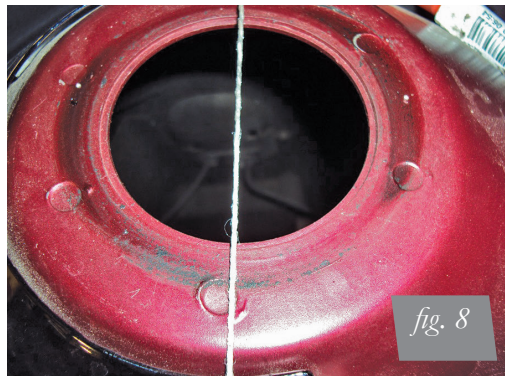
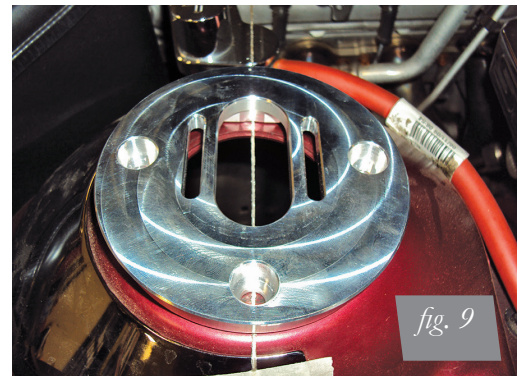

fig. 8
fig. 9
2. Place and center the camber plate on top of the strut tower with the slots directed perpendicular to centerline of vehicle, toward the engine compartment and one hole on the outboard side. It may be useful to place a string from strut tower to strut tower through the centers and tape in place to help reference the center of the tower (fig. 8). Place the camber plate with hole and slot centers on top of the string (fig. 9).